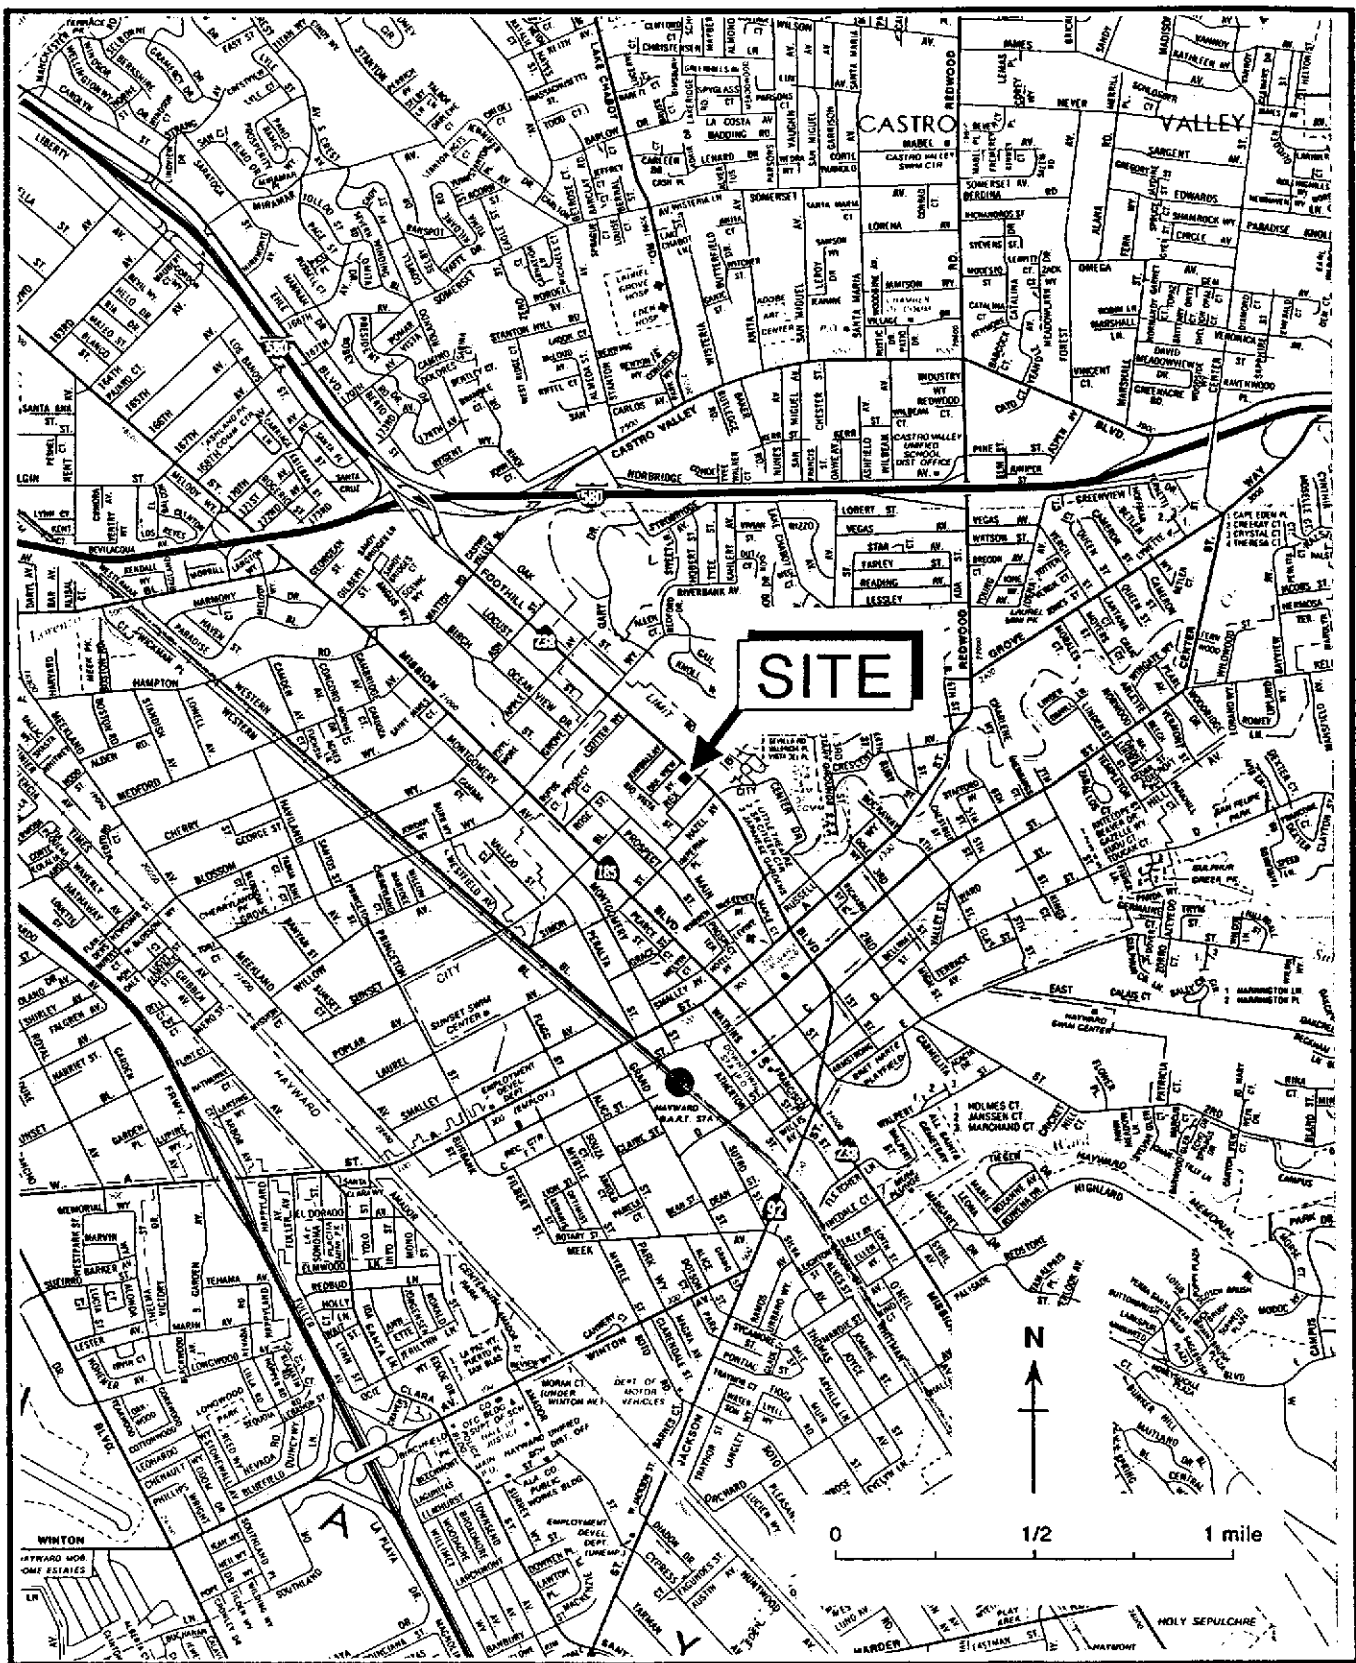

Figure 1. Site Location Map - Chevron Service Station #90260, 21995 Foothill Blvd., Hayward, California
Weiss Associates (WA) collected ground water samples from nine of ten monitoring wells on January 4, 1990 as part of the quarterly ground water monitoring program at Chevron Service Station #90260 in Hayward, California (Figure 1). Monitoring well MW-8 (Figure 2) was not sampled due to the presence of free-floating hydrocarbons. Ground water samples from monitoring wells MW-4, MW-5, MW-6, MW-7, MW-9, MW-11, MW-12 and MW-13 contained benzene, ethylbenzene and xylenes above the California Department of Health Services (DHS) maximum contaminant level (MCL) for drinking water, and toluene above the DHS recommended action level for drinking water. Only trace concentrations of benzene, toluene and xylenes were detected in monitoring well MW-10.